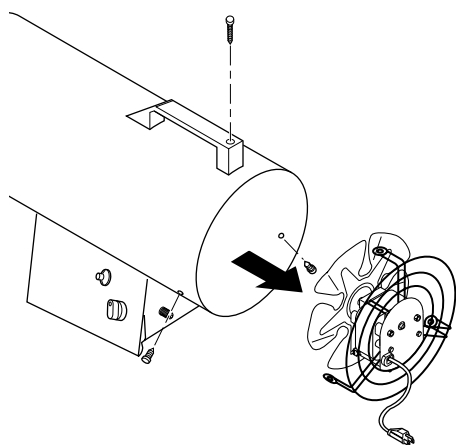

Figure 14 - Removing Motor and Fan Guard from Heater
2. Remove motor and fan guard from heater shell (see Figure 14).